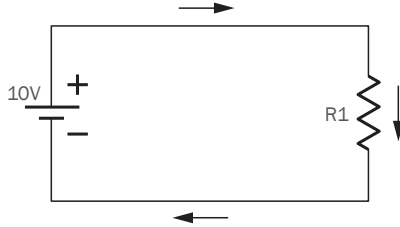
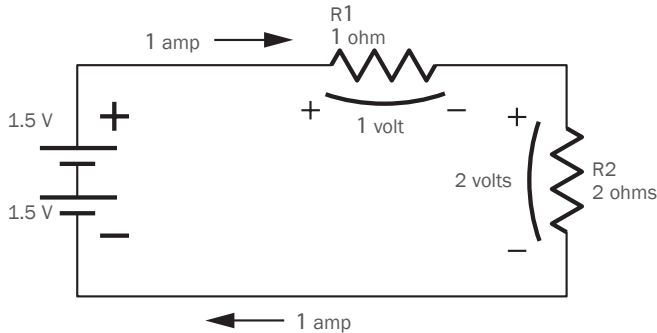

Figure 1
Figure 2
In figure 1, the voltage source establishes a current (I) through the battery, conductors, and resistor. By convention, the current flow is shown to flow from the positive side of the source to the negative, as shown. The magnitude of the current is determined by the potential of the battery and the value of the resistor. The celebrated Ohm's Law represents this relationship:
When the battery was manufactured, it contained stored energy in the form of a potential chemical reaction. When the battery is connected to a circuit, the current that flows from the battery does work that gradually expends this energy. In the case of figure 1, the resistor produces heat (in watts) as energy is slowly transferred from the battery to the resistor. The following equation calculates the power dissipated in the resistor:
To construct the circuit in figure 1, a resistor would have to be chosen so that it could safely dissipate 1.0 watt without overheating. To produce a suitable resistor, a manufacturer would typically provide a small cylinder with wire leads containing an electrically resistive material. The surface area of the resistor would have to be large enough so that the resistor will transfer enough heat to the surrounding air by radiation and conduction so it does not overheat. If a resistor were used in a circuit that was rated at 1.0 watt, the temperature of the resistor would stabilize at about 120°F (50°C) above ambient temperature.
The circuit in figure 1 (see page 90) is the basic complete circuit. Figure 2 illustrates how additional elements can be combined.